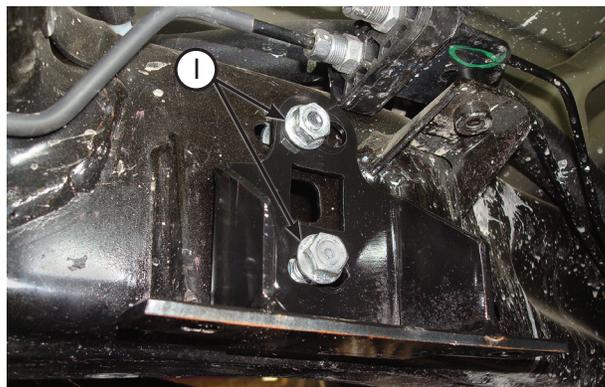

Fig. 12
4. Carefully remove (twist off) the tool from the top carriage bolt first and install the 3/8"-16 serrated flange nuts (I). Tighten the nuts finger-tight only (Fig. 12). Carefully remove the tool from the bottom carriage bolt and repeat. Leave both nuts loose. Repeat for right side.